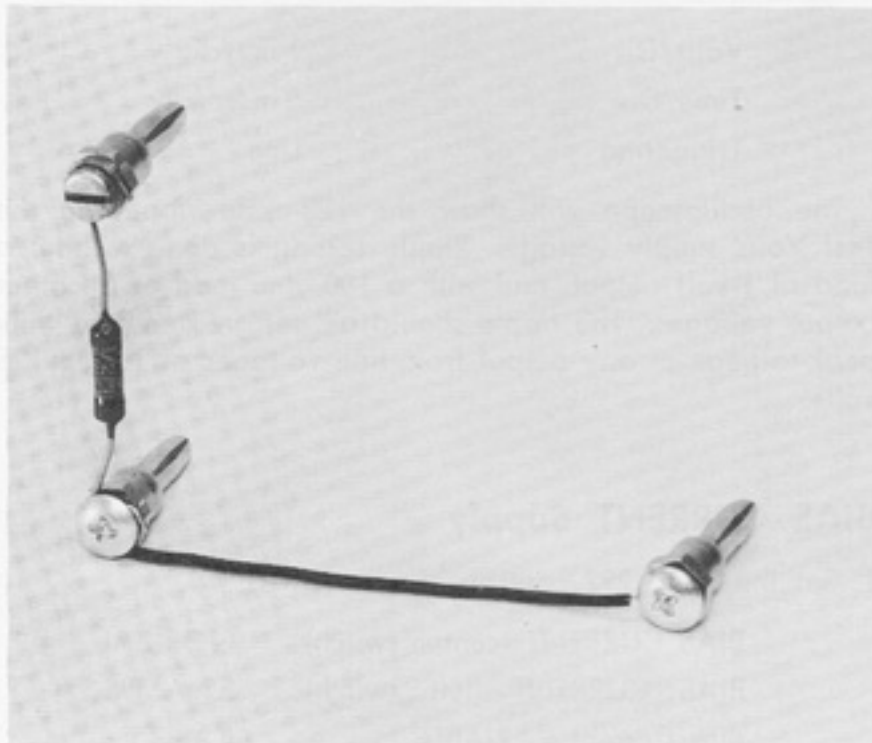

Fig. 5-1. Test resistor assembly.
4. Two precision resistors: A 100-ohm, 8 to 10 watt, and a 1000-ohm, 1/2 watt, $\pm 0.5\%$ each, fitted with banana plugs as shown in Fig. 5-1.
5. A coax cable about 42 inches long to permit the test oscilloscope to be connected to the resistors of item 4.